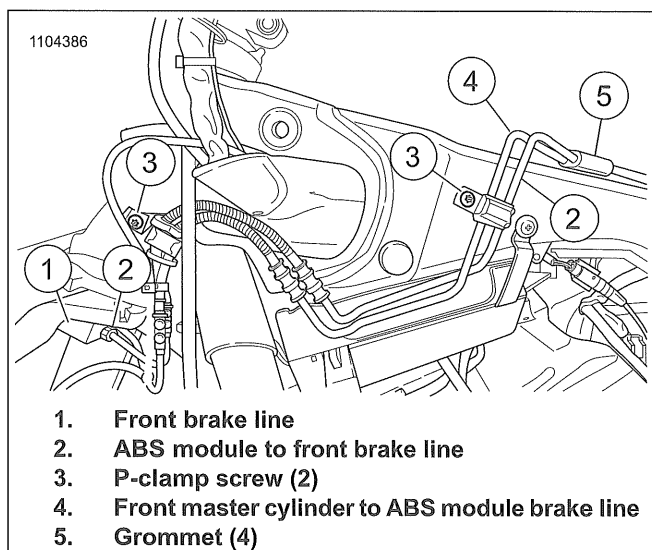
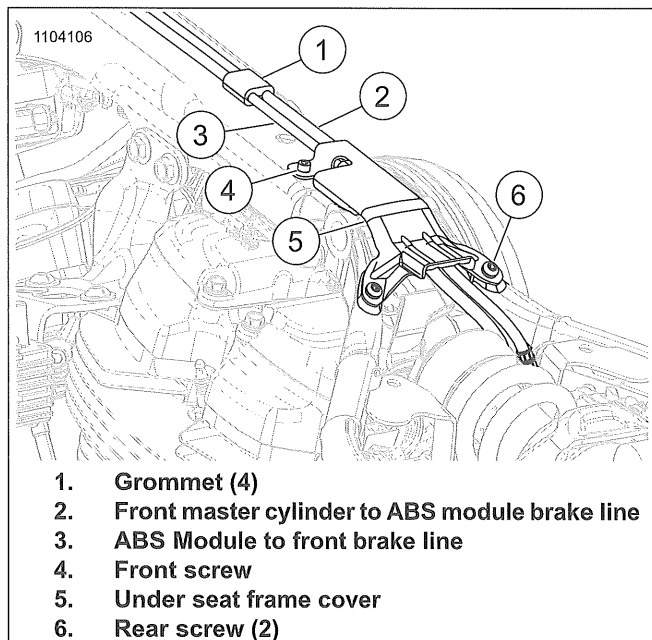
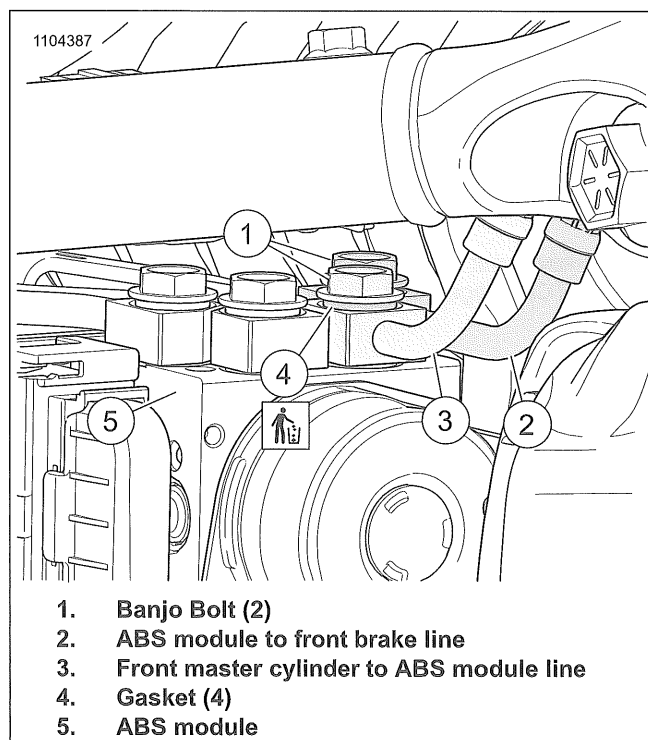

Figure 3-57. Front ABS Lines Clamps
Figure 3-58. Rear Frame Cover For Front ABS Lines
Figure 3-59. Front ABS Line Connections
1. See Figure 3-57. Disconnect ABS lines (2, 4) from front brake line (1).
2. Remove P-clamp screws (3).
3. See Figure 3-58. Remove under seat frame cover (5).
- a. Remove front screw (4).
- b. Remove rear screws (6).
4. See Figure 3-59. Remove banjo bolts (1) from ABS module (5).
6. See Figure 3-57 and Figure 3-58. Remove P-clamps and grommets from brake lines.
1. See Figure 3-57 and Figure 3-58. Install grommets and P-clamps.
2. See Figure 3-59. Install brake lines to ABS module.
3. See Figure 3-58. Install under seat frame cover (5).
- a. Install rear screws (6). Tighten.
4. See Figure 3-57. Connect ABS lines (2, 4) to front brake line (1). Tighten.